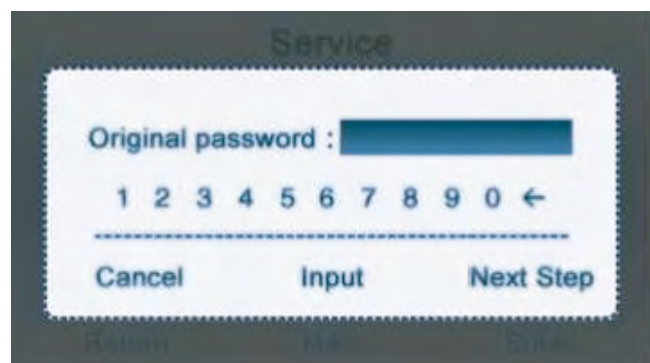
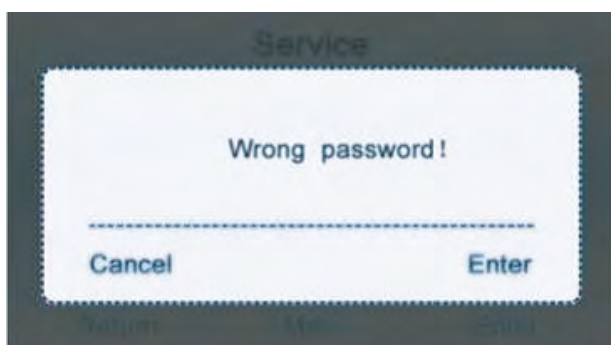

Figure 8
Figure 9
B. Press the "upward" key or "downward" key to select "password" and press "Enter" key to initiate password setting, which is shown in Figure 8.
C. Press the "leftward" key and "rightward" key to select in the line of numbers; press the "input" key to fix the selected numbers in the password box. When password entry is completed, press the right key to proceed with "next step". If the original password is input incorrectly, a window prompting "Wrong password" will pop out as shown in Figure 9. Press "Enter" or "Cancel" in this window to return to the figure 8.